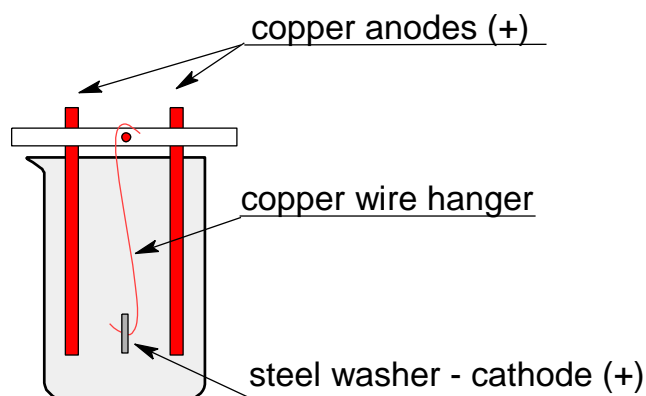

Figure 4. Beaker system to copper plating.
3. Copper coating processes are carried out in a vessel presented in Figure 4.